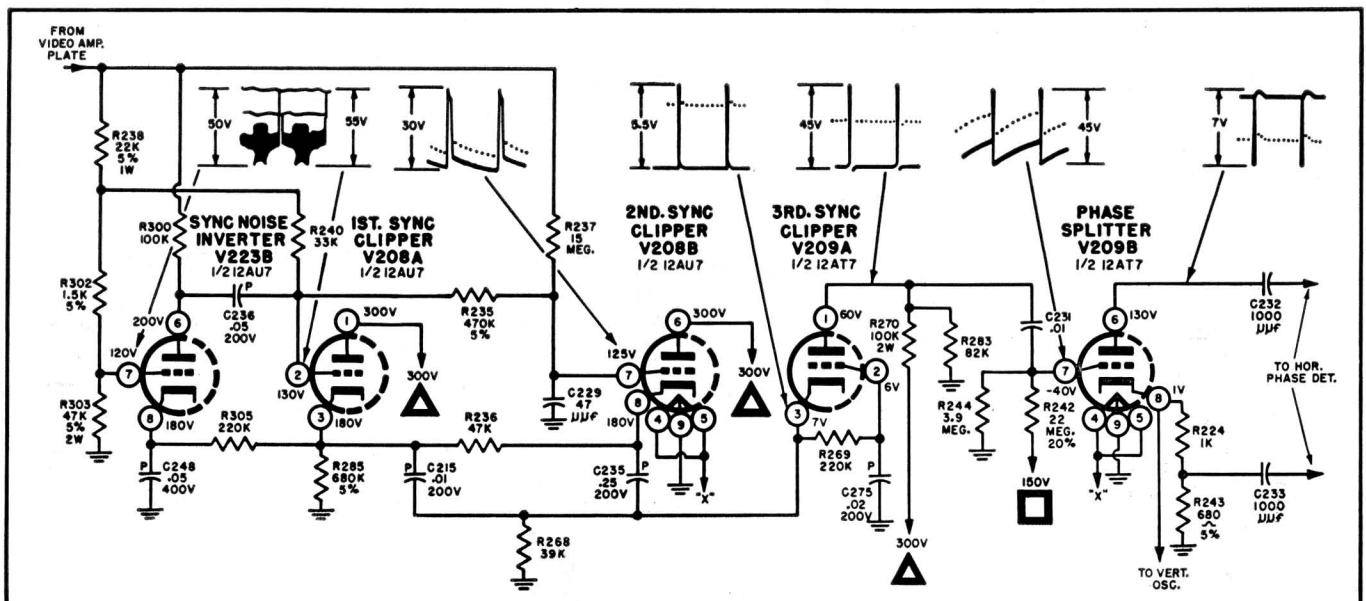
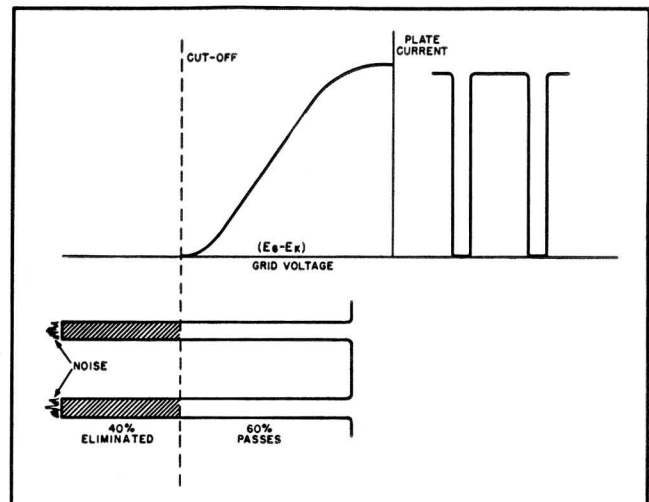

Figure 11. Schematic of sync circuits.
Figure 17. V209A grid-voltage, plate-current waveforms.
**SECOND SYNC CLIPPER.** — As noted in the preceding discussion the first sync clipper, V208A, does not pass the vertical sync signal. As a result other provisions have been made to separate the vertical sync from the composite-video signal. This is accomplished in the second sync clipper, V208B in figure 11.
**THIRD SYNC CLIPPER.** — The composite-sync signal (horizontal, equalizing and vertical pulses) appearing across R268 is applied to the cathode of the third sync clipper, V209A in figure 11. R269 maintains the grid and cathode at approximately the same d-c potential, while the addition of C275 prevents the input signal from appearing at the grid. The operating conditions of the stage are shown in figure 17. Since the positive input signal is applied to the cathode it has the same effect as a negative signal applied to the grid, therefore the sync pulses drive the tube into cut off. As a result the upper 40% of the sync signal is clipped and does not appear at the plate. This clipping action removes noise superimposed on the sync signal.
**PHASE SPLITTER.** — The phase splitter, V209B in figure 11, provides additional clipping and out-of-phase sync signals for application to the horizontal a-f-c phase detector.